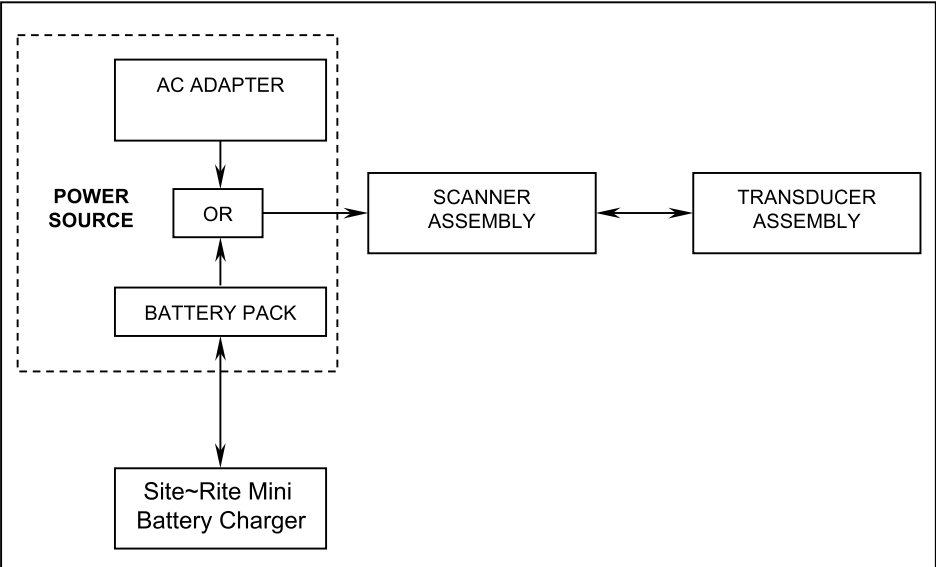

Figure 1 - SITE~RITE\* IV System Block Diagram
*Site~Rite IV System* has four major components (see Figure 1):